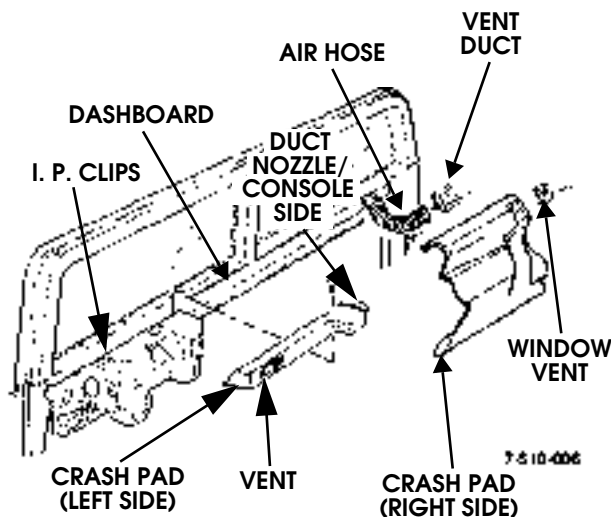

Figure 10-16: Crashpad Replacement
1. Remove screw/washers, and crashpad from dashboard (Figure 10-16).
1. Secure vent duct and window vent to crashpad with screws (Figure 10-16).